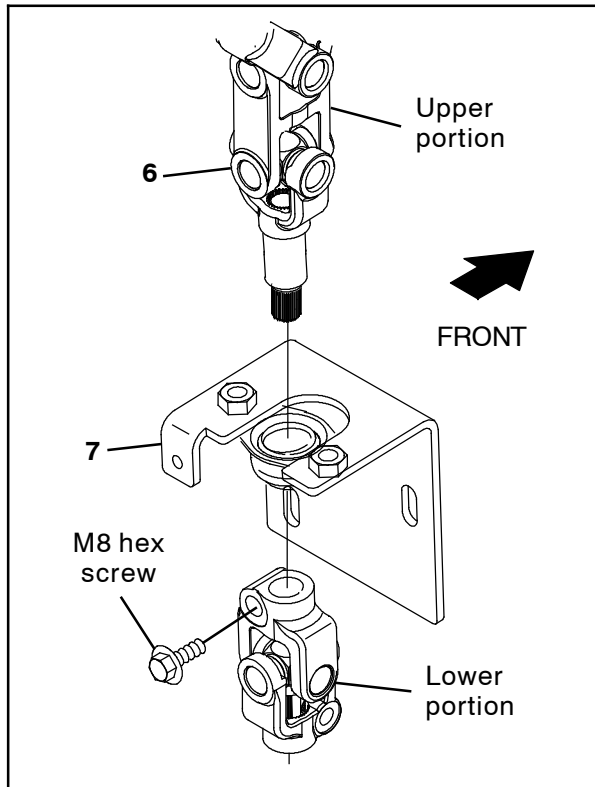
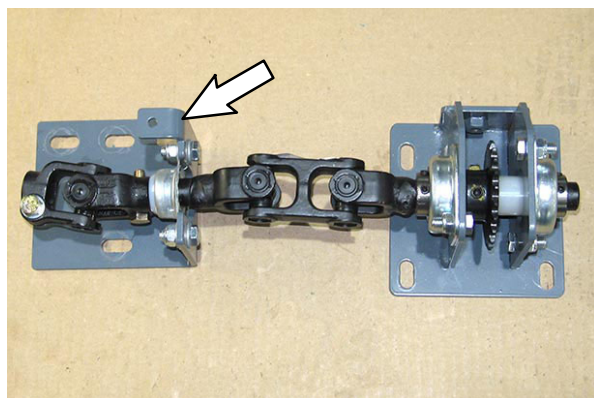

FIG. 20
FIG. 21
19. Remove the M8 hex screw securing the lower portion of the upper power steering shaft (6) to the upper portion and pull the two portions of the upper power steering shaft apart. (Fig. 20)
20. Install the steering bearing bracket assembly (7) onto the upper power steering shaft (6). (Fig. 20)
21. Reinstall the lower portion of the upper power steering shaft (6) onto the upper portion, and reinstall the SEMS M8 hex screw to secure the portions together. Torque the SEMS M8 hex screw to 22 Nm (16 ft lbs). (Fig. 20/ Fig. 21)